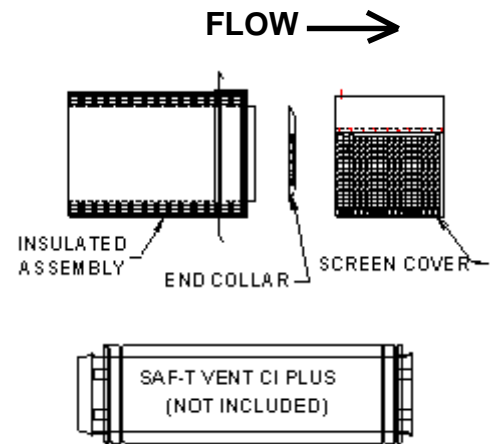

Figure 1
1. The Wall Termination Assembly is packed with the screen cover and end collar (Figure 1). Before beginning, remove this screen cover. Prepare an opening for the Wall Termination Assembly in the wall. The opening must be 7 inches larger than the Inner Vent pipe diameter. The opening may be either round or square so long as allowance for proper clearance to combustible material is made. When passing through solid, noncombustible construction, clearances may be reduced if necessary. If there are not sufficient support members to secure the Wall Termination Assembly or if there is a semirigid foam insulation layer under the sheathing, the opening must be blocked out or framed to provide support.
The Wall Termination Assembly is packed with the screen cover and end collar (Figure 1). Before beginning, remove this screen cover. Prepare an opening for the Wall Termination Assembly in the wall. The opening must be 7 inches larger than the Inner Vent pipe diameter. The opening may be either round or square so long as allowance for proper clearance to combustible material is made. When passing through solid, noncombustible construction, clearances may be reduced if necessary. If there are not sufficient support members to secure the Wall Termination Assembly or if there is a semi-rigid foam insulation layer under the sheathing, the opening must be blocked out or framed to provide support.